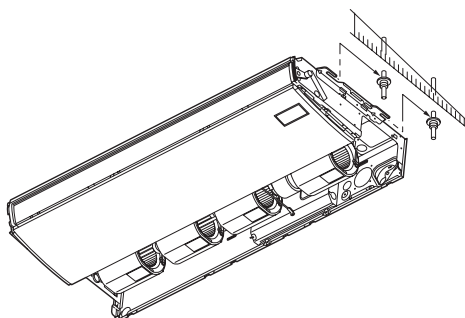

Fig. 2-65
- b) Lift the indoor unit, and place it on the washers through the notches, in order to fix it in place. (Fig. 2-65)